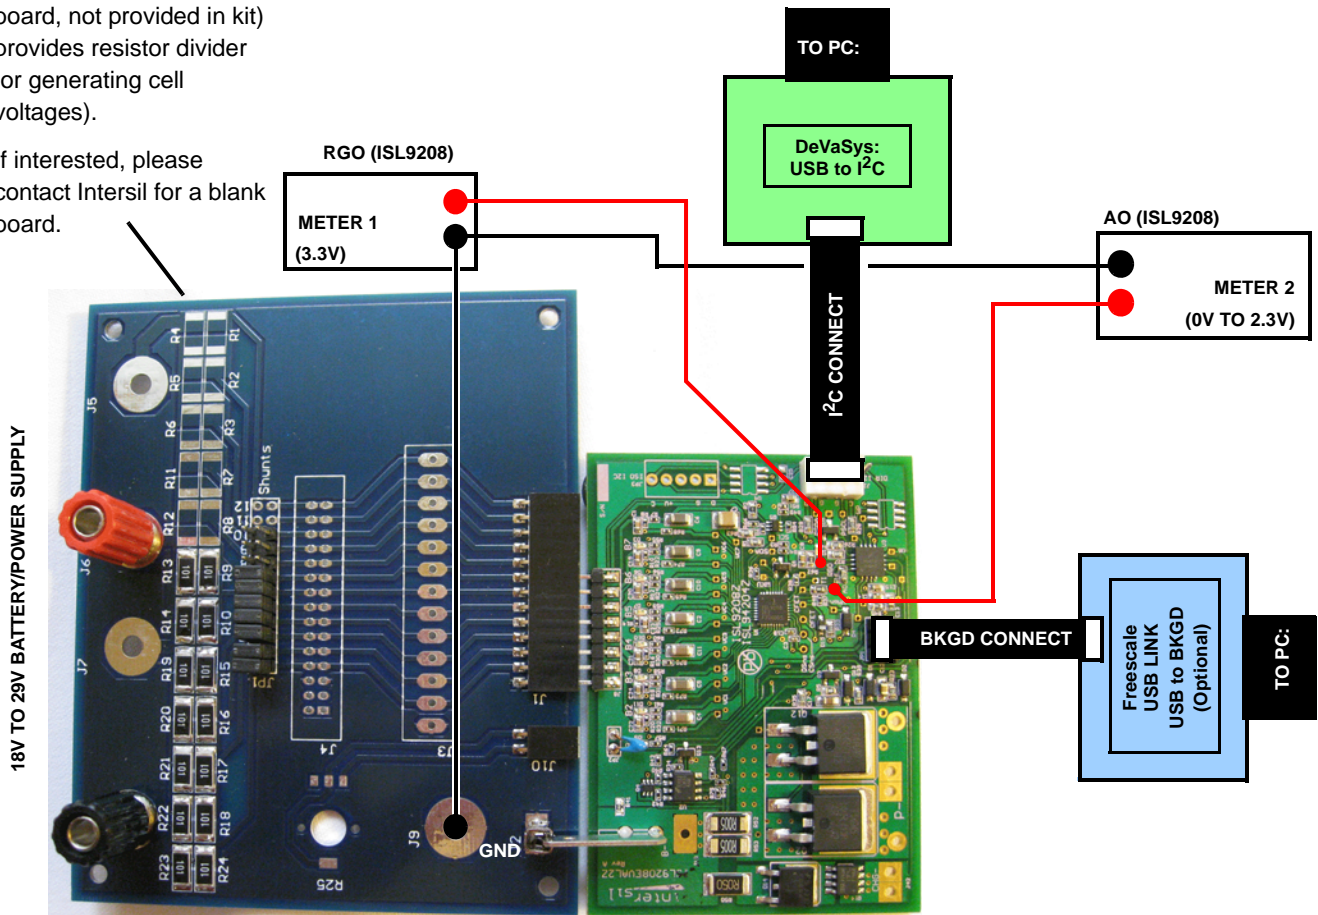

FIGURE 4. ISL9208EVAL2Z EVALUATION BOARD TEST CONNECTION
Setup (See Figure 4)
- Figure 4 shows a blue board that connects between a power supply and the evaluation board. This board is not provided in the kit, but is an example of an interface connection that supports the connection of both a single power supply (with resistor dividers) or separate power